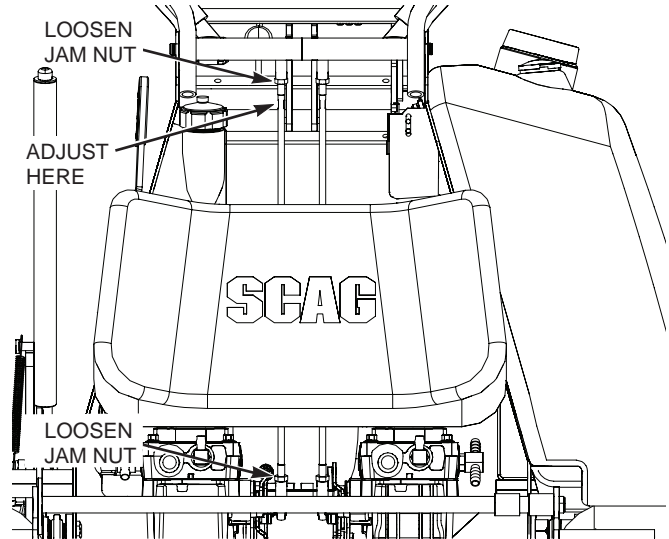

Figure 6-3.
5. Repeat for the LH wheel. See Figure 6-3.
A. Stop the machine and place the steering control levers in the neutral position. Loosen the lock nuts securing the ball joints at each end of the LH steering control rod. Rotate the control rod to lengthen the rod and tighten the lock nuts. This will cause the control rod to stroke the LH pump less, slowing down the LH wheel. See Figure 6-3.